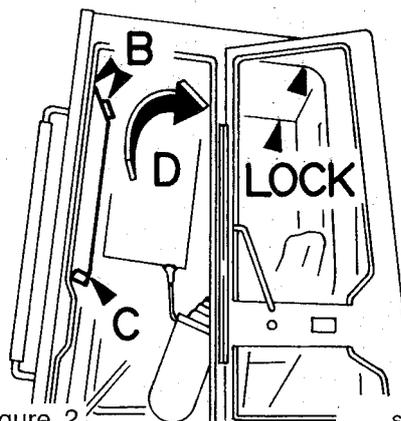

Figure 2
- 2 Using the handle "C", lift the front window in the direction indicated by arrow "D" and slide it to the back. (Refer to Figure 2.)